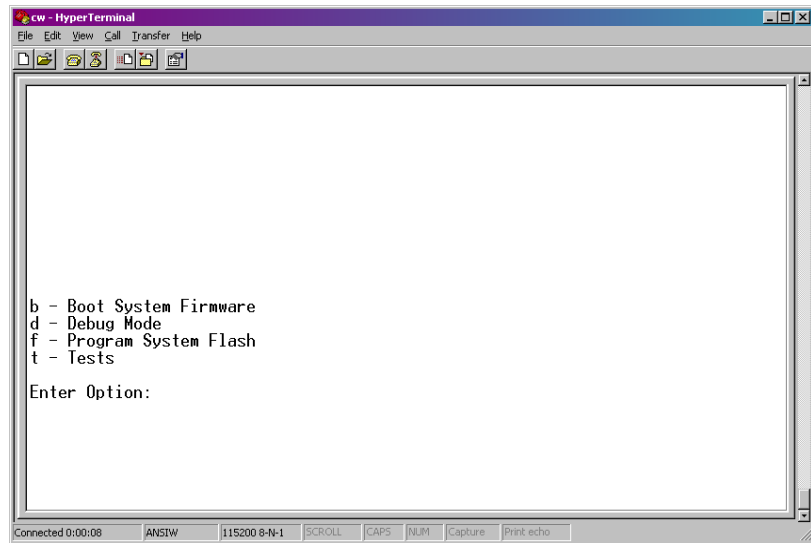

Figure 5-1. HyperTerminal Mode Menu
6. From the HyperTerminal Mode menu (*Figure 5-1*), press the **F** key to enter FLASH download. A message warns that the FLASH is about to be erased; press the **Y** key at the prompt. The screen displays dots as the system erases the flash memory; this could take a few minutes.